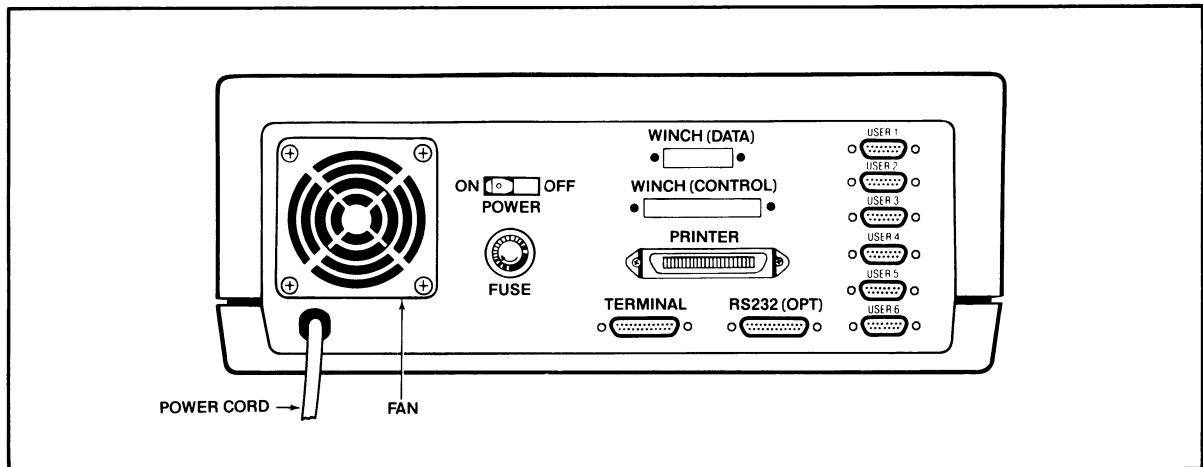

Figure 2-3 Rear Panel of the TS 806/20
1. Attach one end of an RS232 interface cable to the pin connector labeled **TERMINAL** on the rear of the TS 806/20. (See Figure 2-3.)
1. Attach one end of an RS422 interface cable to one of the pin connectors which are labeled **User 1** through **User 6** on the rear panel of the TS 806/20. (See Figure 2-3.)